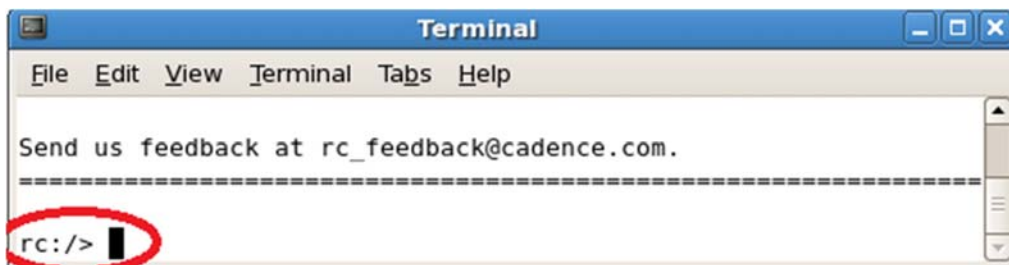

Figure Lab7-9 RC-shell Prompt
2. Type ***rc*** to launch the RTL Compiler. You should see the RC-shell prompt as shown in Figure Lab7-9.